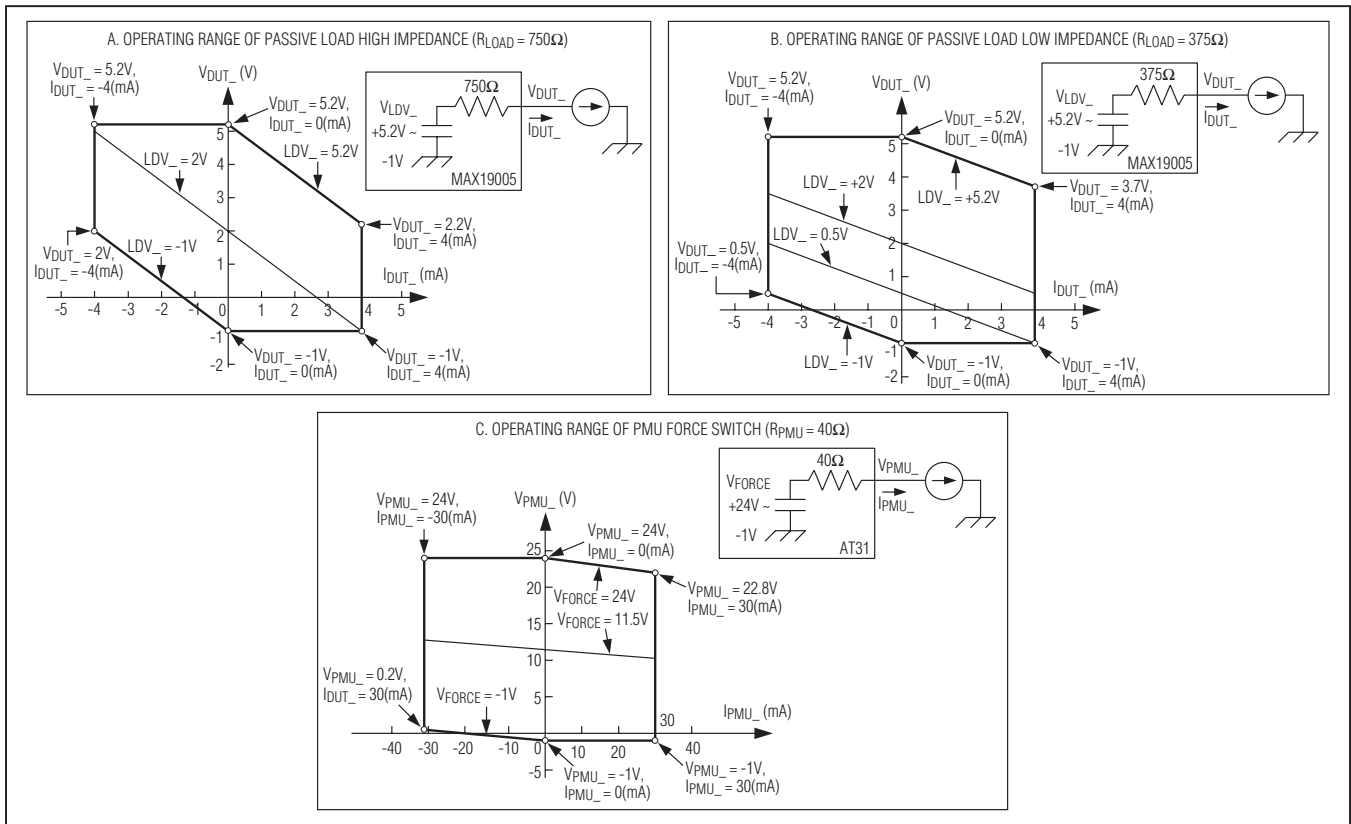

Figure 1. Operating Ranges
- Note 8:** At this pulse width, the output reaches at least 90% of its nominal (DC) amplitude. The pulse width is measured at DATA\_.
- Note 13:** Operating output voltage/current range of passive load and PMU force switch at +24.6V supply. See Figure 1.